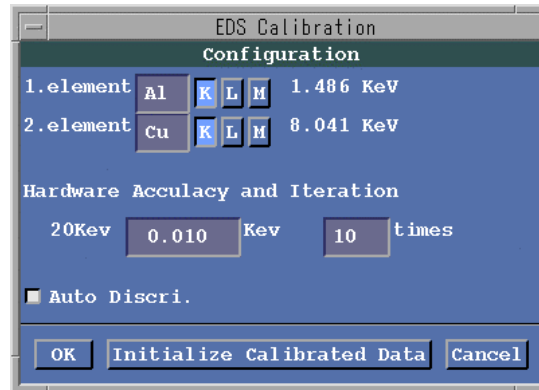

Fig. 23 Configuration window
- ◆ Click on the **Initialize Calibrated Data** button at the bottom of the window of Fig. 23.